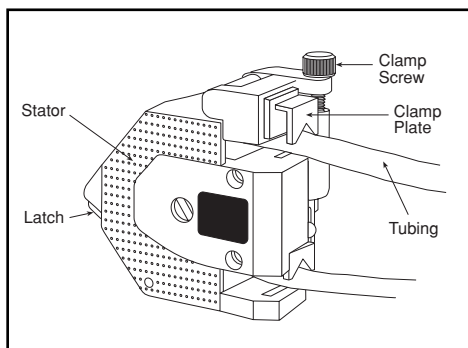
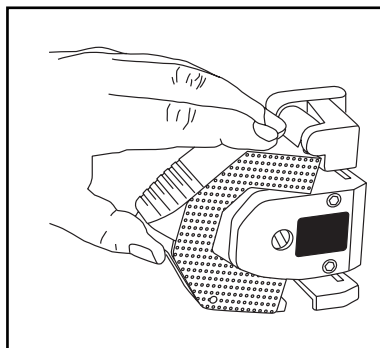
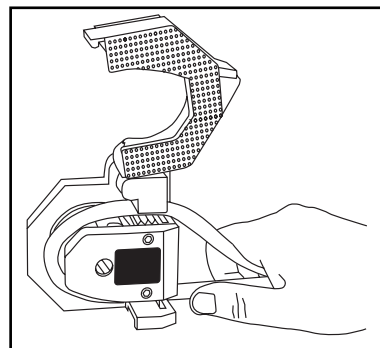

Figure 3-8. Parts of the Pump
Figure 3-9. Opening the Stator
Figure 3-10. Loading the Tubing
Follow this procedure (refer to Figures 3-8 through 3-12):
1. Refer to Figure 3-8 and Figure 3-9. Snap open the Stator by pushing the spring-loaded area of the Latch. Remove any old tubing from the pump, if necessary.
2. Refer to Figure 3-8 and Figure 3-10. Loop the Tubing over the rollers. This is easy to do even for stacked pumps.